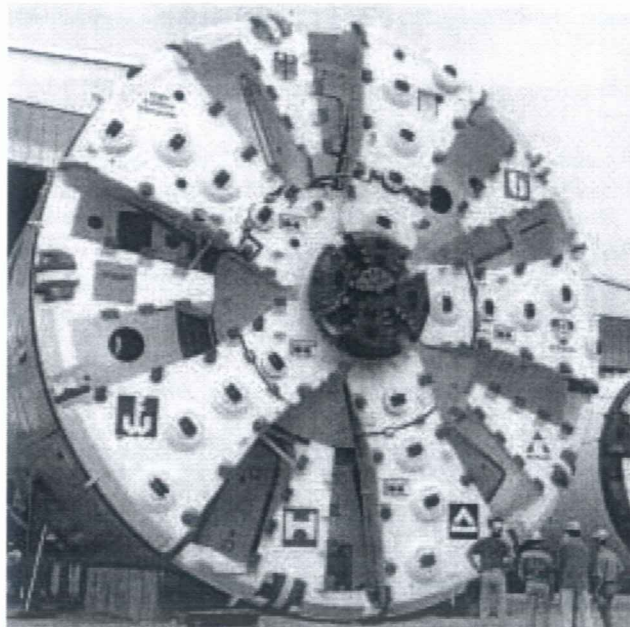

Figure 1. MIXSHIELD (Ø14.20 m.), 4° ELBE TUNNEL
- **1989.** The company Herrenknecht, following the development of the mixshield, builds the first convertible shield which can work in different varieties as earth pressure shield, slurry shield, compressed air shield and tunnel boring machine. It is a very versatile shield that allows to change the mode of operation with small modifications made in the same tunnel. (**Figure 1**)